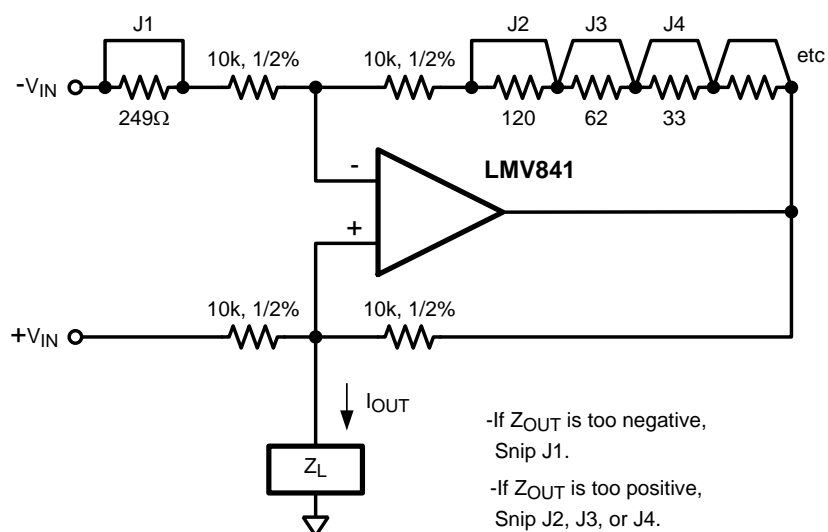

Figure 11. Trimming Z_{OUT} without a Trim-Pot
5. Use the techniques of TI's Linear Brief LB-46 to make snip-trimmed resistors, to avoid the problems with pots. See Figure 11.